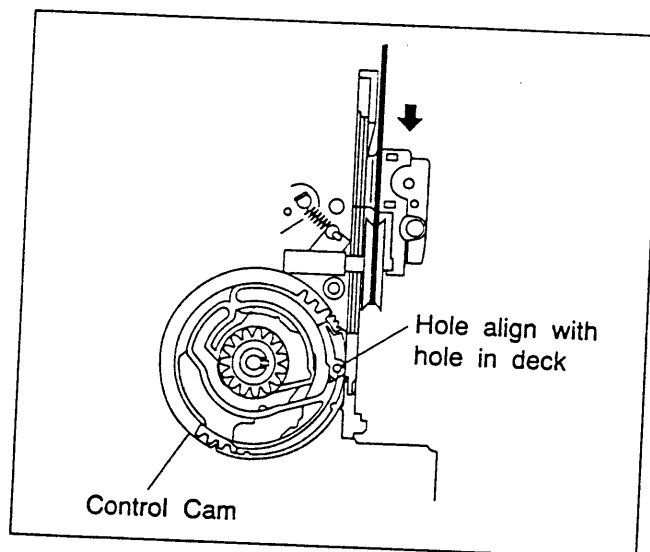

Fig. 2-4-1
- (1) Turn the mode motor belt by hand.
- (2) Confirm that the hole of the control cam are aligned to the deck hole as shown in Fig.2-4-1.